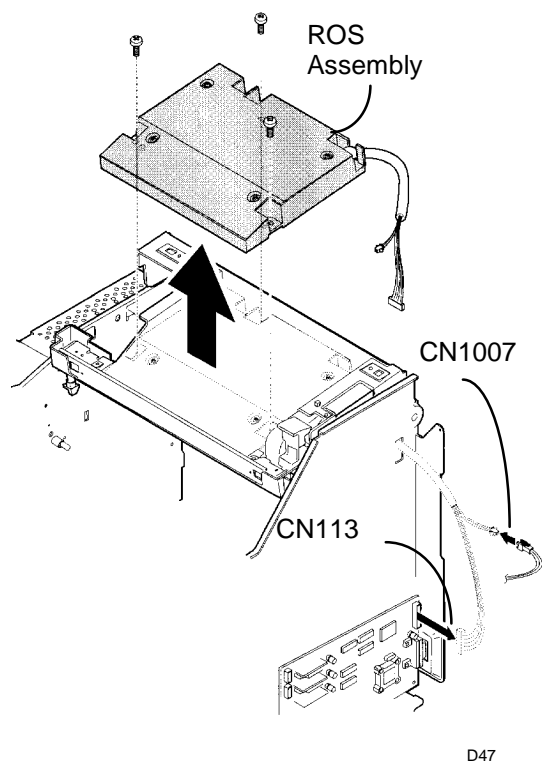

Figure 1. Removing the ROS
2. (Figure 1): Disconnect the connectors, remove the screws, and remove the ROS Assembly.